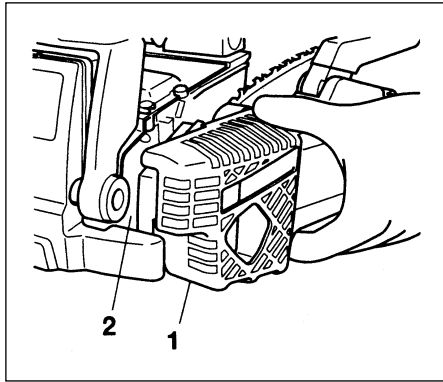

Fig.1-1
1. Remove chain bar clamp nuts (3).
2. Remove the side case (1) as pinching the rear part of the side case (1) (Fig. 1-1)
6. Install the side case (1) onto the guide bar clamp bolts after inserting it on the alignment/locking tab on the engine case (2). (Fig. 1-1)